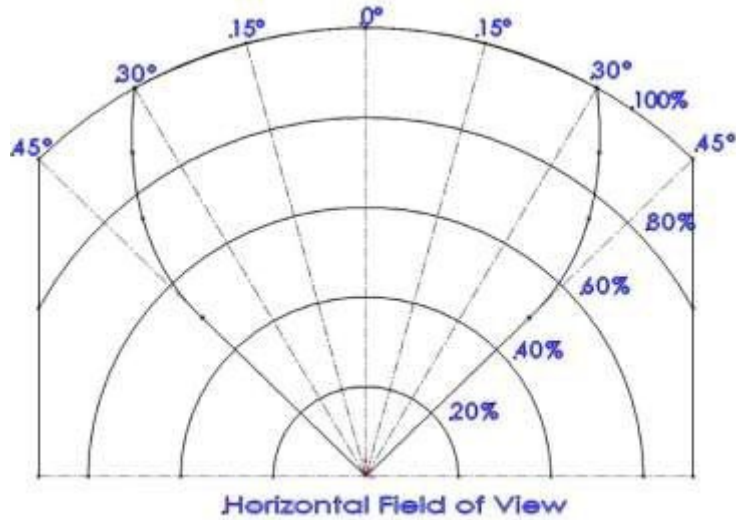
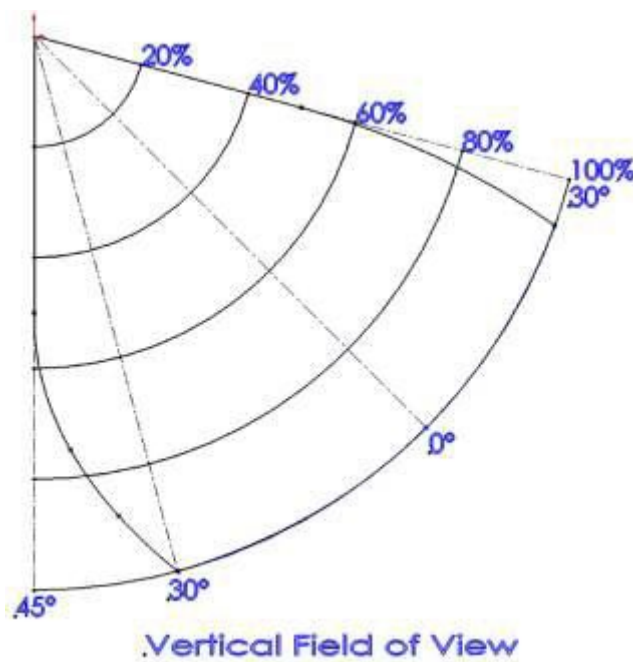

Figure 9 : - Horizontal field of view
Figure 10 : Vertical field of view
- The field of view of the detectors (See Figure 9 and Figure 10)